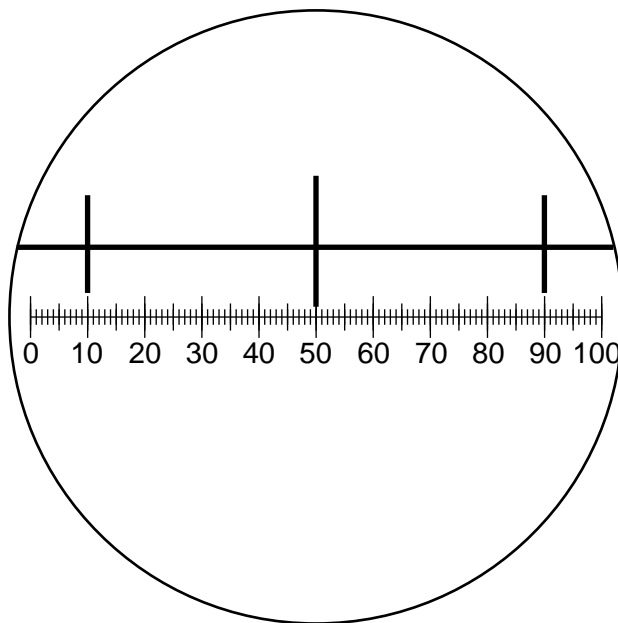
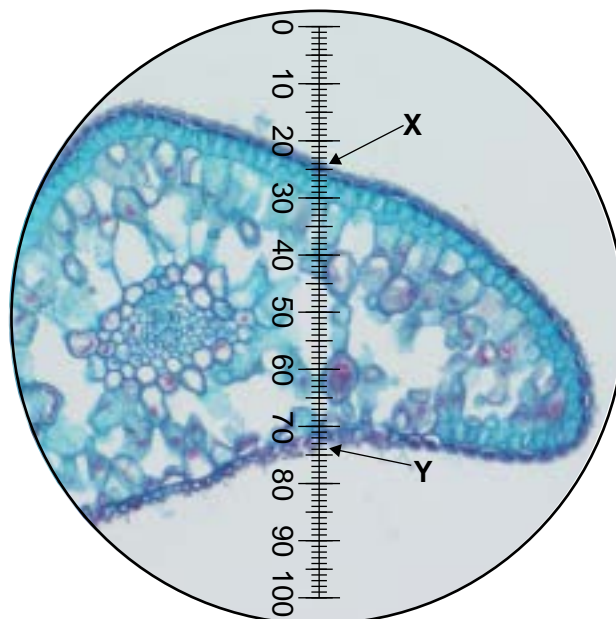
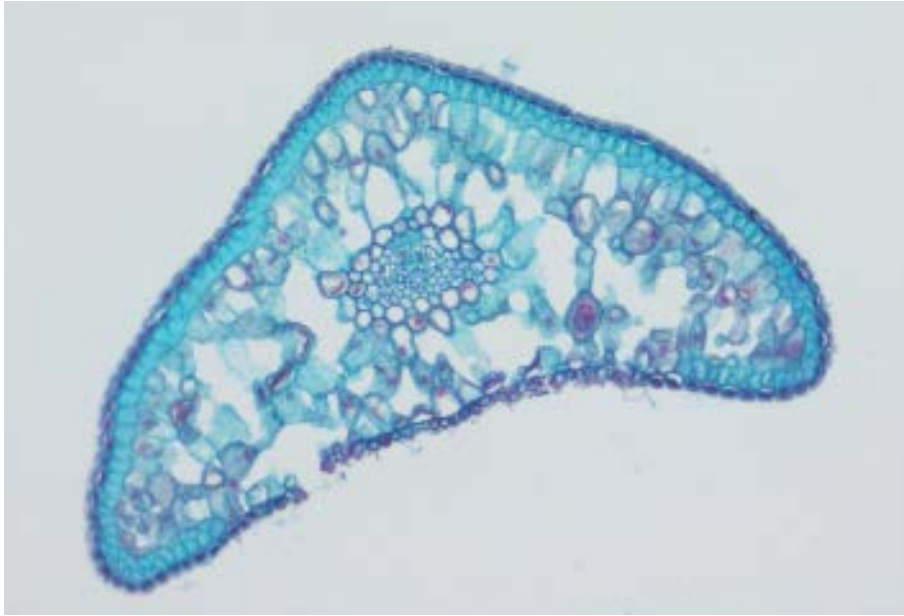

Fig. 2.3
Fig. 2.4
Fig. 2.5
- (b) Fig. 2.3 shows a photomicrograph of a stage micrometer scale that is being used to calibrate an eyepiece graticule.
The length of one division on the stage micrometer in Fig. 2.3 is 0.10 mm.
- (i) Calculate the actual length of one eyepiece graticule unit shown in Fig. 2.3.
Fig. 2.4 shows a photomicrograph of a transverse section through a different leaf from **J1**. This was taken with the same microscope and the same lenses used to take the photomicrograph in Fig. 2.3.
- (ii) Use the calibration of the eyepiece graticule unit from **(b)(i)** to calculate the actual length of the plant leaf from **X** to **Y** in Fig. 2.4.
- (iii) Fig. 2.5 is a photomicrograph of a transverse section of the same leaf as shown in Fig. 2.4.
Identify **two** observable differences, other than size and colour, between the leaf in Fig. 2.5 and the leaf on **J1**.